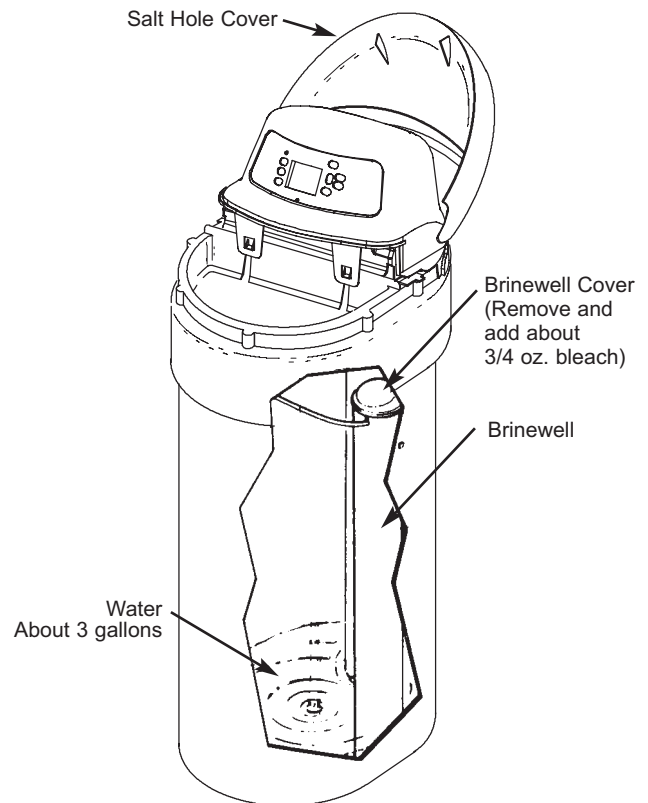

FIG. 30
3. Remove the brine well cover (Fig. 30) and pour about 3/4 ounce, or 1 to 2 tablespoons, of common 5.25%¹, *unscented*, household bleach (Clorox, Linco, BoPeep, White Sail, Eagle, etc.) in the softener brine well. Replace the brine well cover.